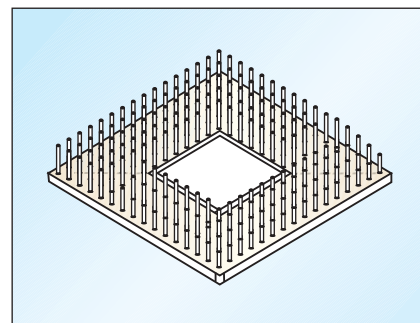
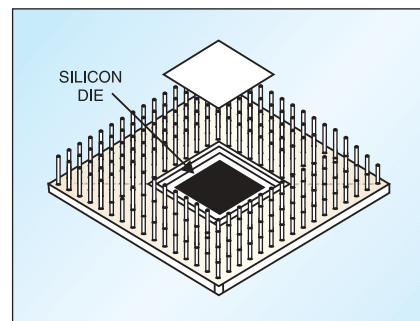

Fig. 1: An integrated circuit (IC)—a pin grid array (PGA) package
Fig. 2: The silicon die or chip is under the package lid
Before going deeper into an ASIC, let's first look at the evolution of silicon chip or intergraded circuit (IC). Fig. 1 shows an IC package. (This is a pin-grid array or PGA, shown upside down. The pins will go through holes in the PCB.) People often call this package a chip, but, as seen in Fig. 2, the silicon chip die itself is